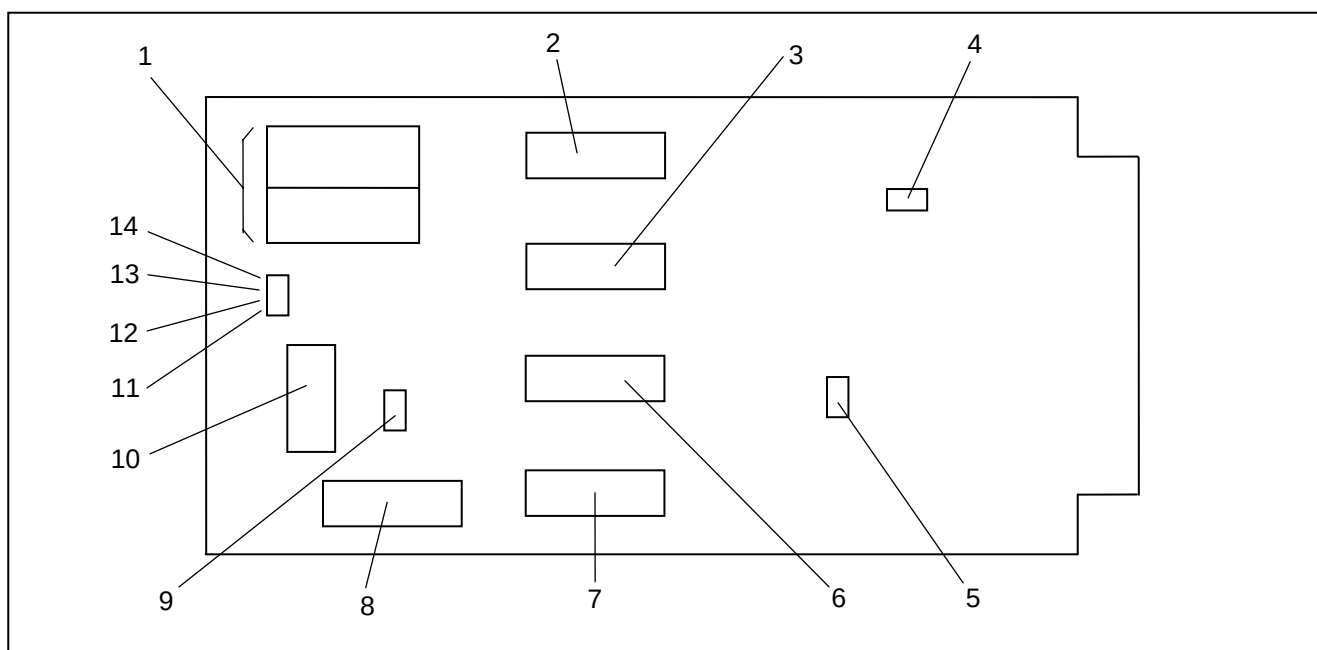

Figure 7. Controls and indicators, RFL VF-5A Dual-Channel Four Wire E&M Voice Module
5. Refer to Figure 7 for the location of switches and other controls and indicators on the VF-5A.